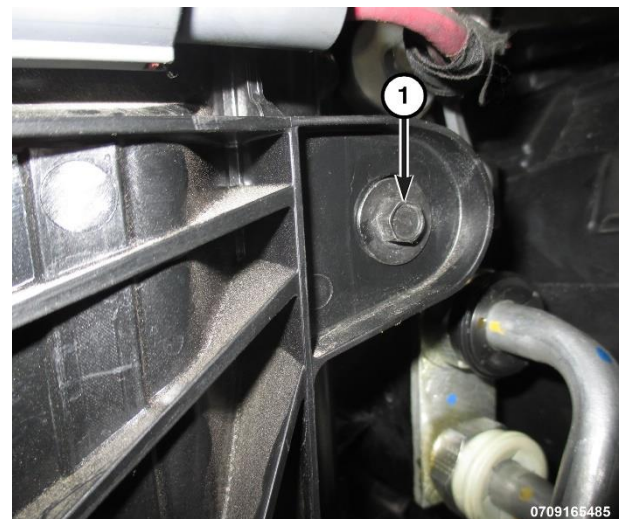

Figure 96 – Right Cooling Fan Bolt
9. Remove the right cooling fan bolt (1) (Figure 96).